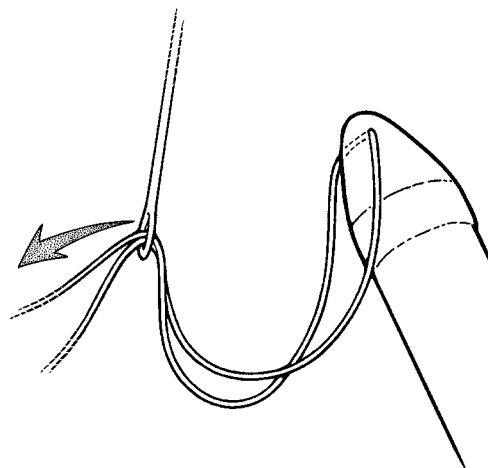

Figure 4-12. Insert Traction Suture into Keith Needle
3. Withdraw obturator to “retracted” or “locked” position. Pass both ends of cylinders traction suture (approximately 10 cm) through the eye of a Lightning Bolt Keith Needle (**Figure 4-12**).